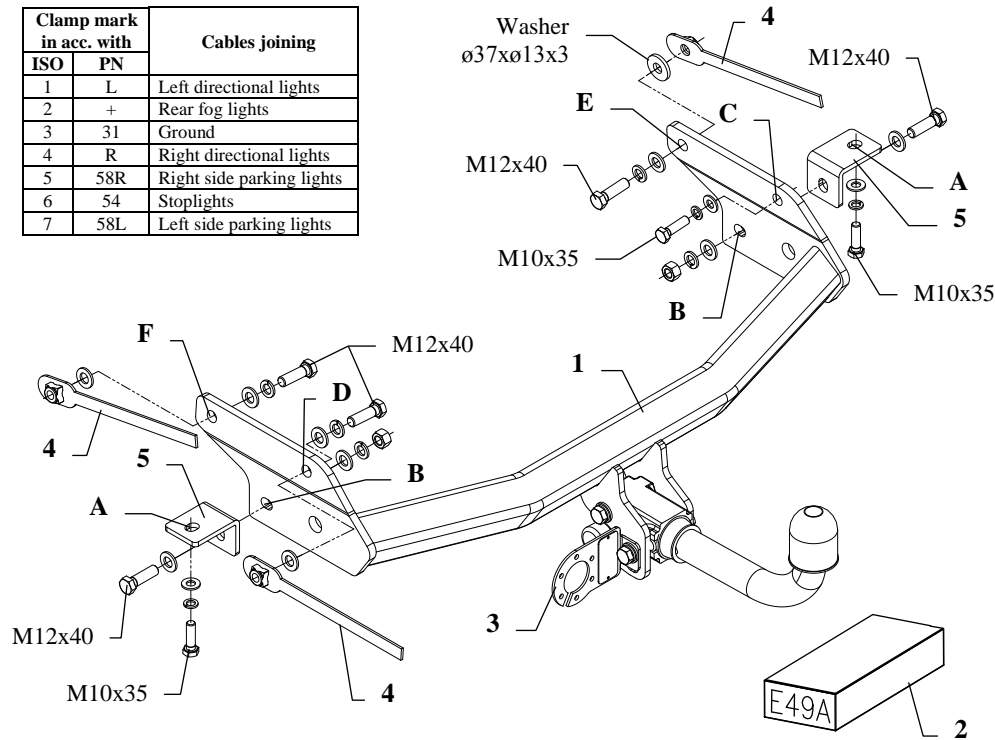
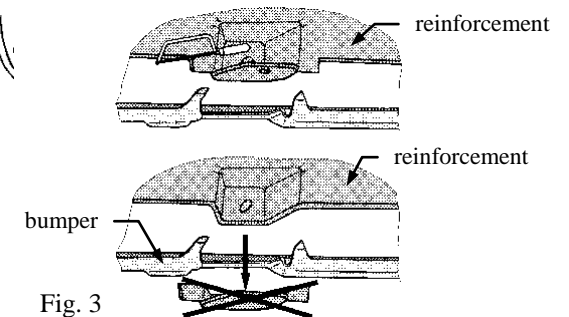

Fig. 1
Fig. 3
- For Chevrolet Trans Sport:** Underneath the bumper, in central section cut out its fragment: width 80mm and depth 40mm. Cut out fragment of bumper reinforcement according to figure 3. Disassemble original towing eye. Put the pin for the rearmost exhaust through hole ø19mm in towing hitch brackets. Mount the towing hitch together with the towing eye on the car.
- 3. Between installed angle bars put the main bar of the towing hitch (pos. 1) and fix using bolts M12x40mm (pos. 6) through holes (pos. B).
- 4. On the right side insert bolt M10x35mm in point (pos. C). On the left side insert bolt M12x40mm through hole (pos. D), use nut on the jib (pos. 4). Position the towing hitch horizontally. Drill holes (pos. E and F) in chassis members using bit ø13mm.
- 5. Fix the main bar of the towing hitch through holes (pos. E and F) using bolts M12x40mm and nuts on the jibs (pos. 4). On the left side remember about big washer ø37xø13x3mm (pos. 8), see figure 1.
- 6. Fix body of the automat and the socket plate (pos. 3) using bolts M12x25mm from accessories. Place tow-ball according to supplied instruction.